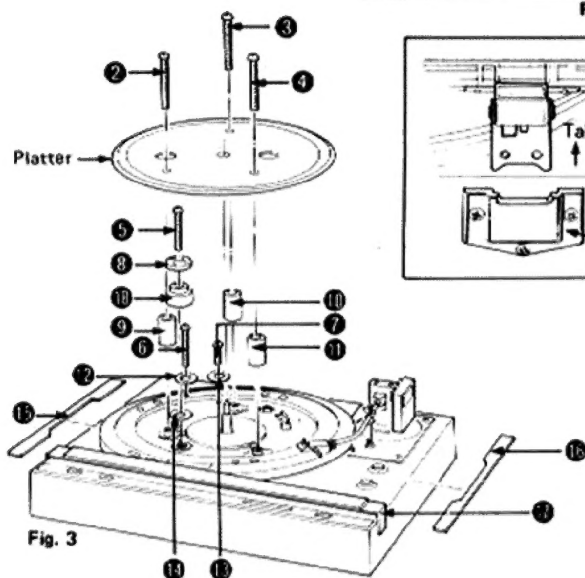

Fig. 3
3. Take off shipping corners ( ⑩ - ⑪ ) and others ( ⑧ - ⑨ ). (Fig. 3)